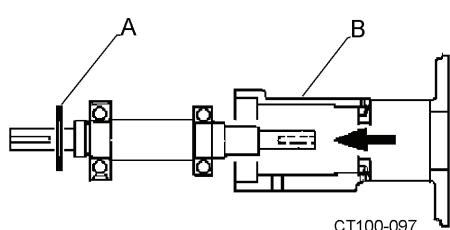

Figure 49 - Bearing Shaft Assembly Removal
10. Push the shaft and bearing assembly out of the housing from the impeller end. See Figure 49.
11. Remove the retaining ring and press the bearings off the shaft (See Figure 49, items A and B).